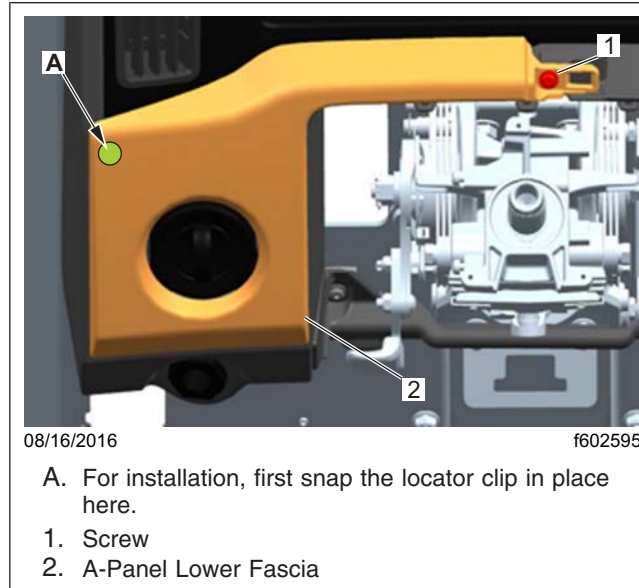

Fig. 2, A-Panel Lower Fascia Removal and Installation
4. Remove the A-panel lower fascia as shown in **Fig. 2**.
- 4.2 Detach the lower right corner of the panel, shown in **Fig. 2** item 2, from the dash with a plastic pry tool.
14. Snap the upper left (locator) clip of the A-panel lower fascia in place as show in Fig. 2 then install the screw on the top right-hand tab. Tighten the screw 26 to 34 lbf-in (295 to 385 N·m).